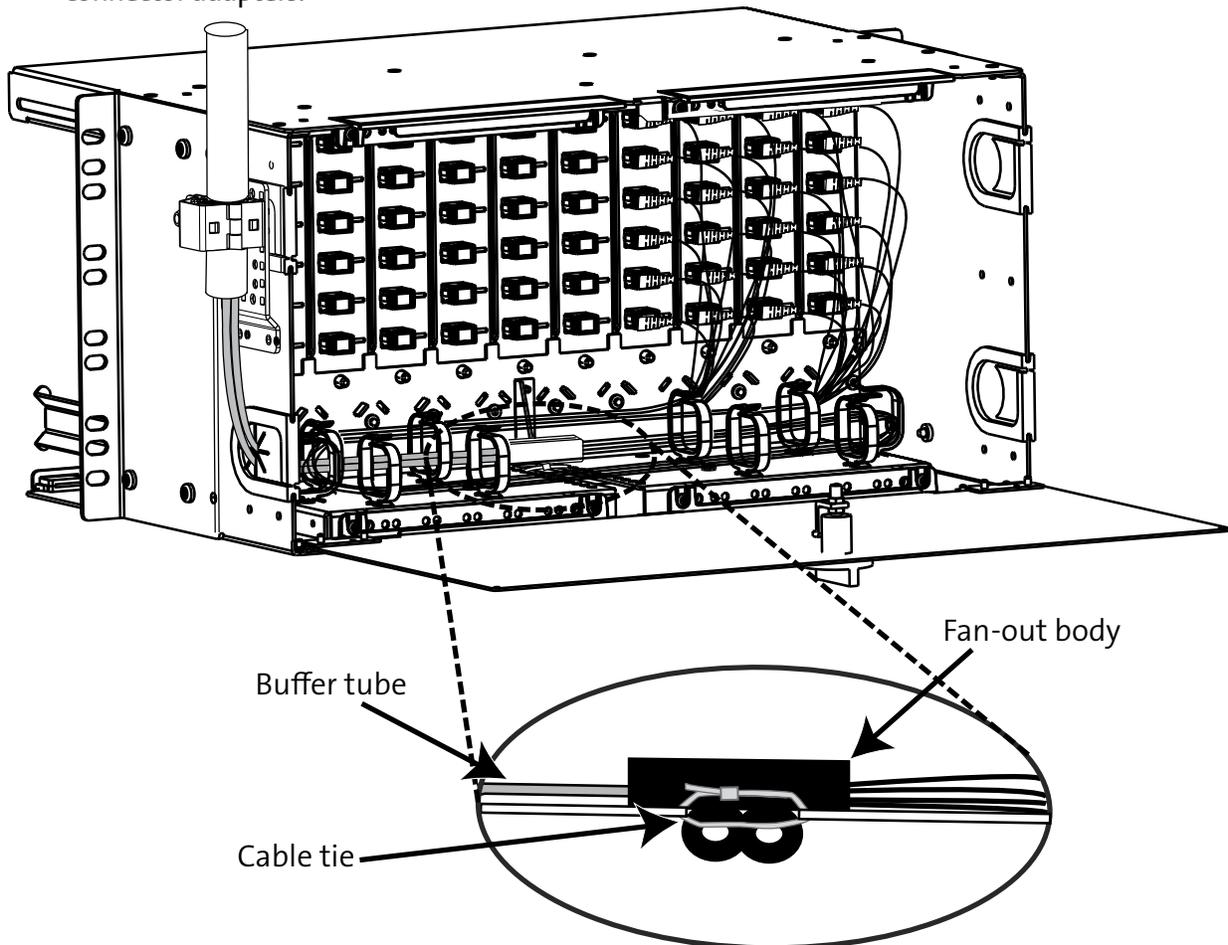

Figure 8
Step 2: Secure the BTF body to the splice shelf using a cable tie (Figure 8).
- Step 3:** Store slack cable in the splice housing or in the RCH unit as shown in Figure 8.